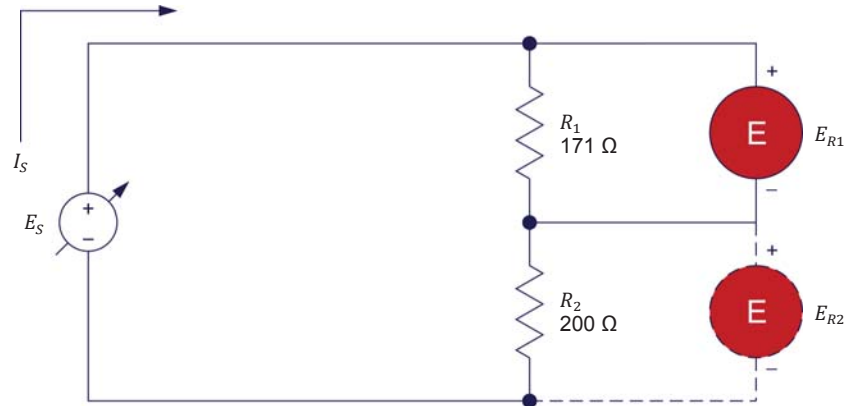

Figure 30. Circuit made of resistors connected in series.
Set up the circuit shown in Figure 30. To obtain the resistor arrangement of Figure 30, make the necessary connections and switch settings on the Resistive Load module.
4. Calculate the equivalent resistance $R_{Eq.}$ of the series resistors in Figure 30. Then, calculate the source current I_S based on the equivalent resistance $R_{Eq.}$ and the source voltage E_S of 50 V.
8. Disconnect the voltmeter from resistor R_1 and connect it across resistor R_2 , as Figure 30 shows.